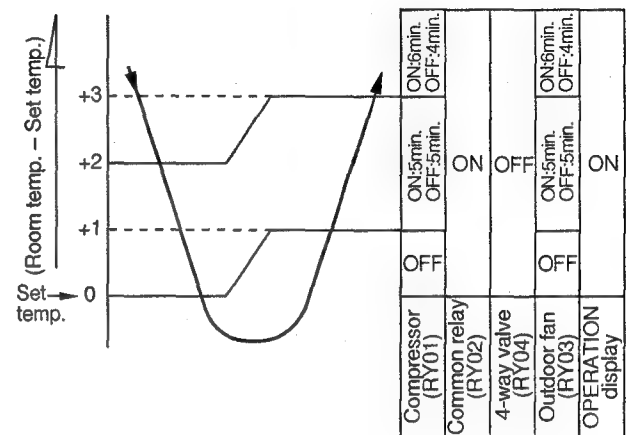

Fig. 7-3-1
- (1) Compressor, 4-way valve, outdoor fan and operation display are controlled as shown in Fig. 7-3-1.